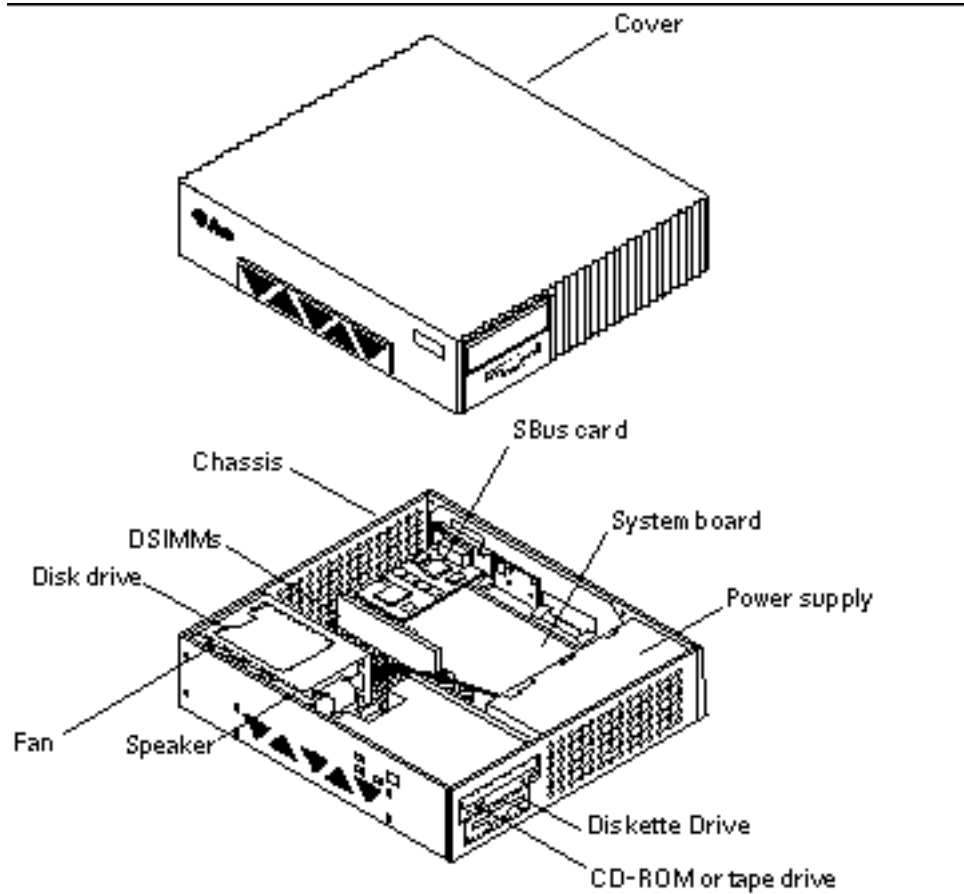

Figure 1-3 Top View of the System with the Cover Removed
- Figure 1-3 shows the top view of the system with the cover removed.